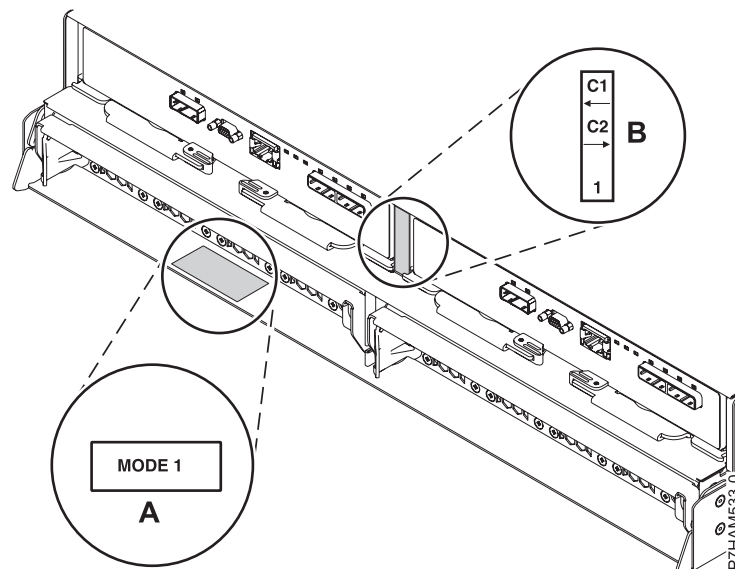

Figure 33. Mode sticker locations at the rear of the 58/87 disk drive enclosure
1. Confirm the factory-set mode of the 58/87 disk drive enclosure by using information printed on stickers at the rear of the enclosure. Stickers are attached to the lower-left shelf of the chassis (**A**) and the center support between the enclosure services manager (ESM) modules (**B**). The stickers indicate whether the enclosure is set to mode 1, mode 2, or mode 4, as shown in Figure 33.